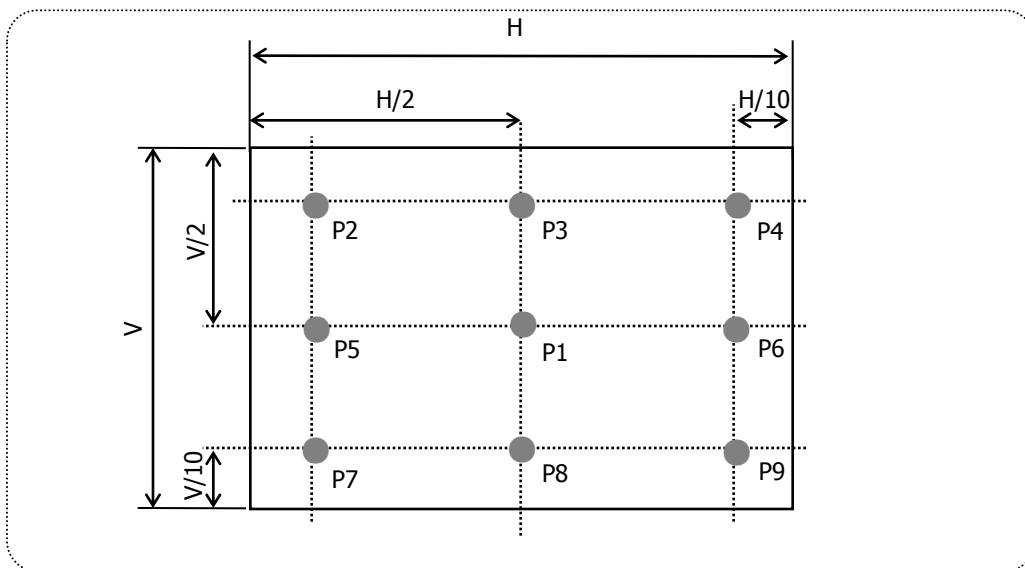

FIG.8 Measure Point for Luminance
2. Surface luminance(L_{WH})is luminance value at Center 1 point(P1) across the LCD surface 50cm from the surface with all pixels displaying white. For more information see FIG.8 (By PR880)
For more information see FIG.8